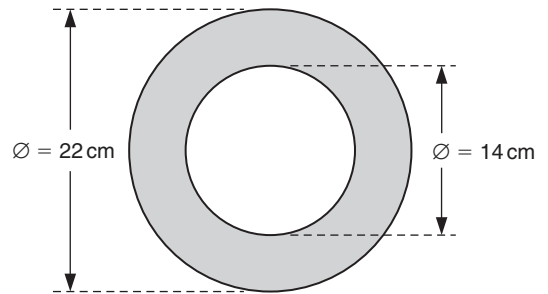

Figure 4.43
8. Calculate the power transmitted by the hollow shaft with the cross-section shown in Figure 4.43, given that the maximum shear stress is 65 MN/m^2 .